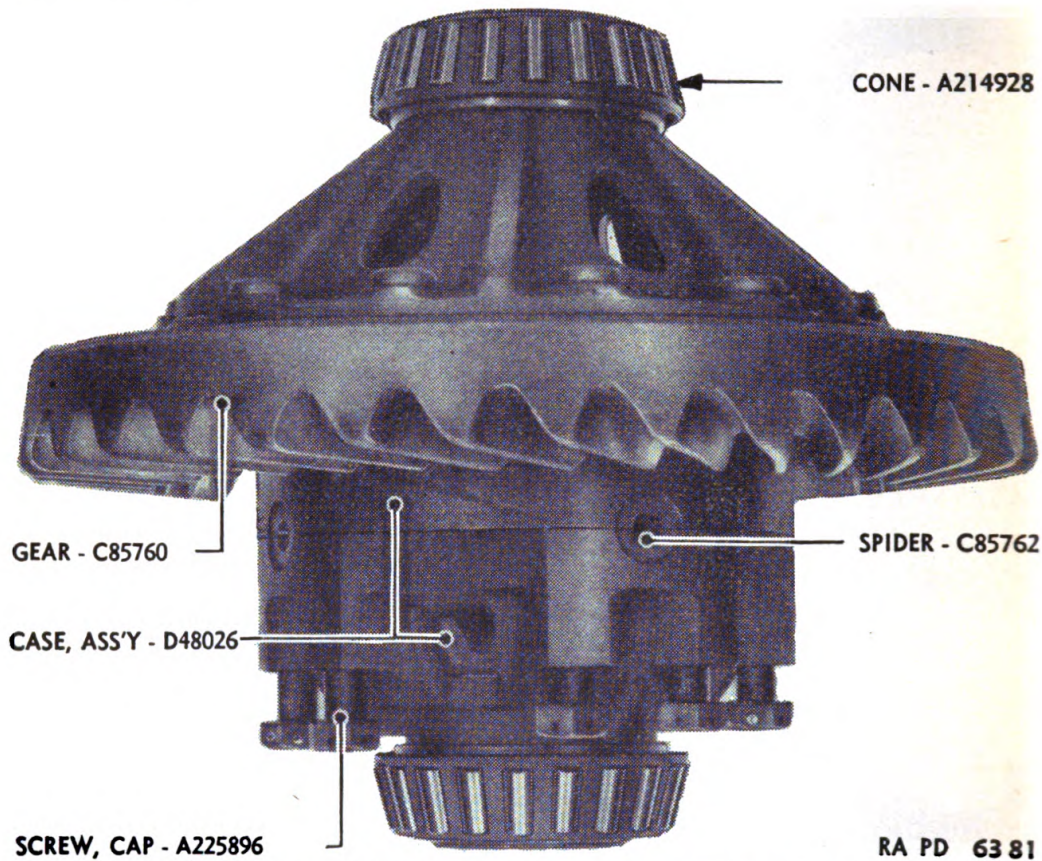

FIGURE 29.—Front axle differential case cap screw removal.
(7) Take out case bolts—wire cutting pliers,  $\frac{9}{16}$ -inch open end wrench. Cut locking wire (A225897) holding case screws (A225896) and remove eight  $\frac{1}{2}$ -inch cap screws (fig. 29).